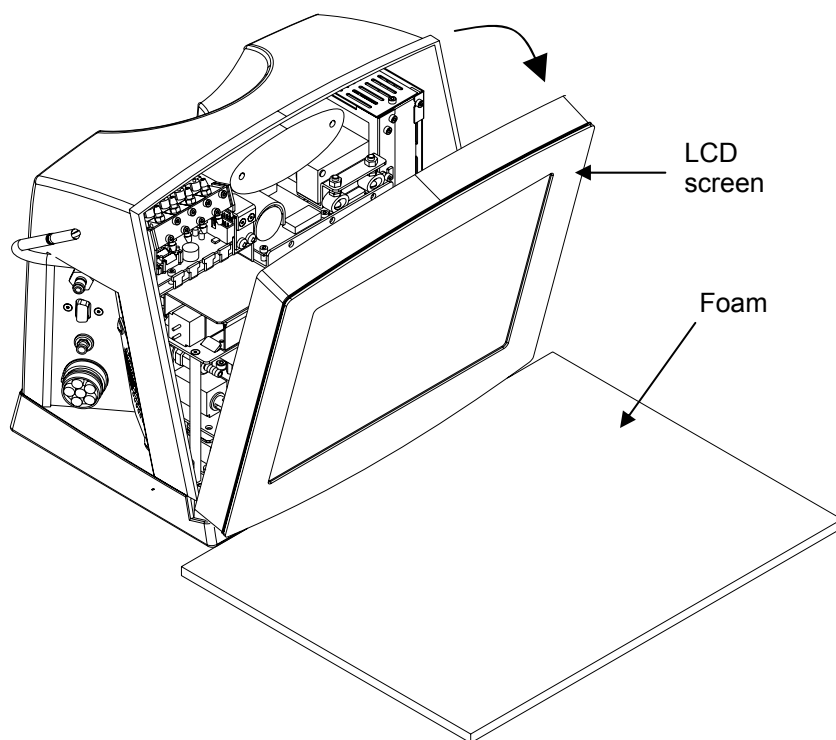

Figure 7.2-2 Disassembly cabinet – loosen LCD screen.
- 5) Tip the LCD screen gently forward, and place it on foam in order not to damage the screen, see figure 7.2-2.